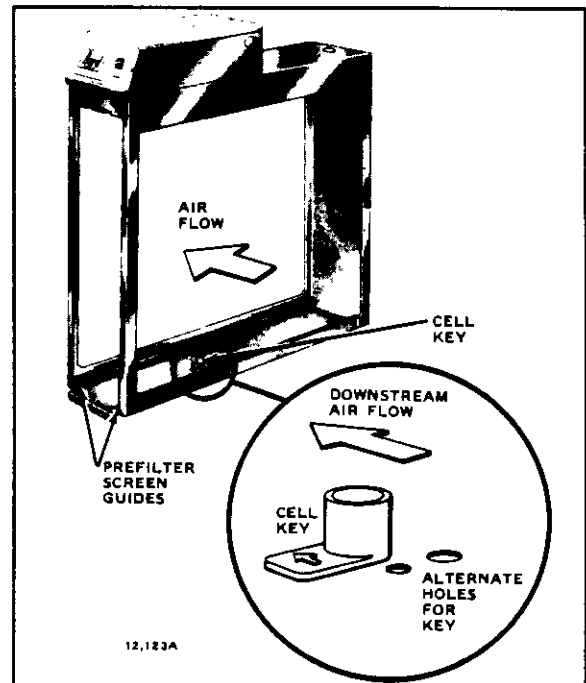

FIG. 26—POSITION OF CELL KEY DETERMINES ORIENTATION OF CELL. ARROW ON KEY MUST POINT DOWNSTREAM.
2. Loosen the screw holding the cell key in place. See Fig. 26.